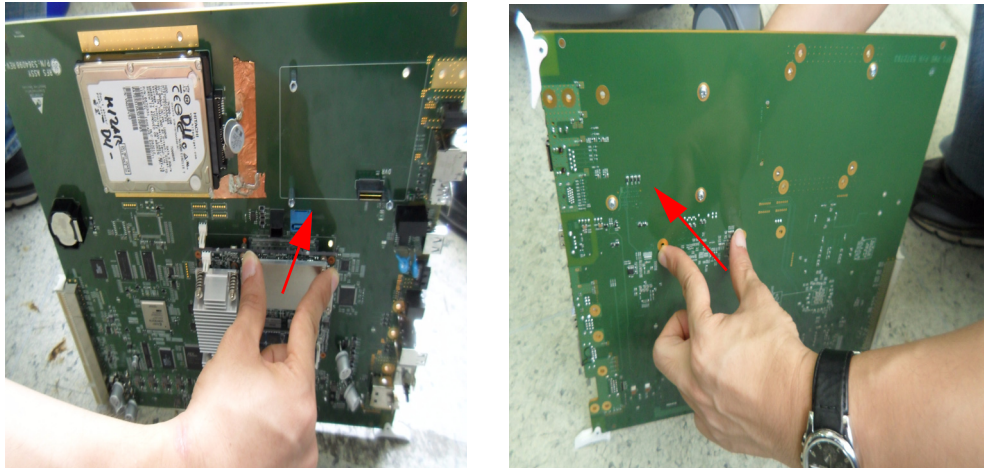

Figure 8-77 Push the SOM in both side of GFS Assy
**CAUTION** When replacing with new SOM, Push the SOM in both side of GFS Assy like as below Figure 8-77.